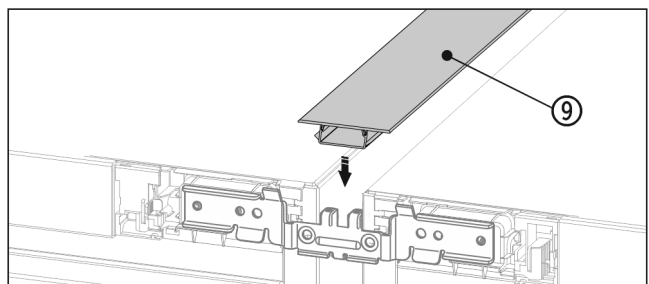

Fig. 22
- ▶ On the top press the short cover strip Fig. 22 (9) into the horizontal gap.